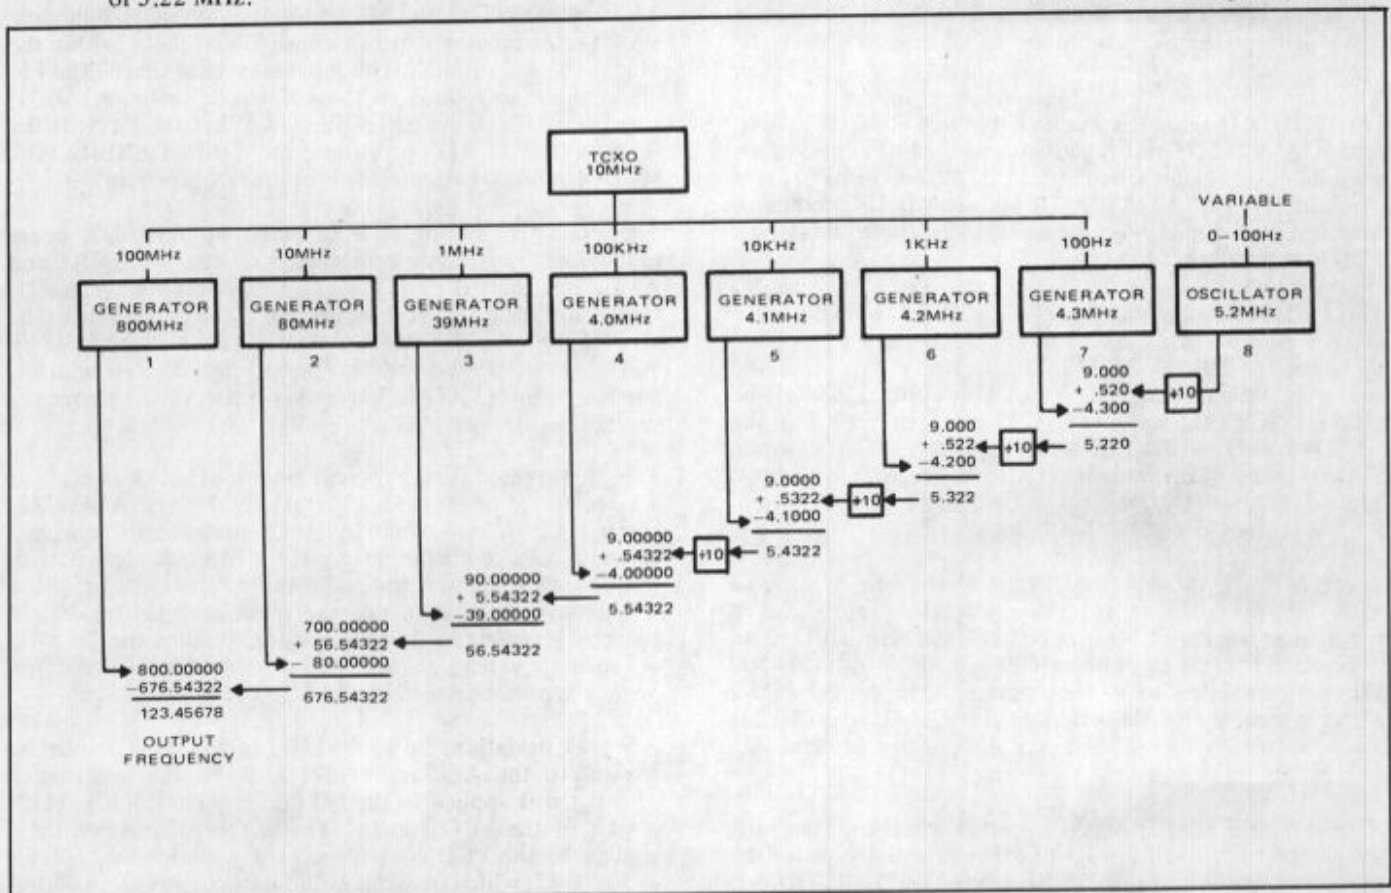

Figure 1-1. Typical Frequency Synthesis
i. **Typical Frequency Synthesis (See Figure 1-1)**